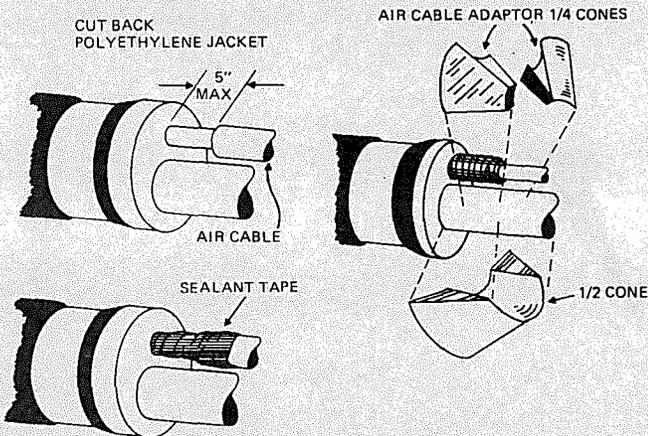
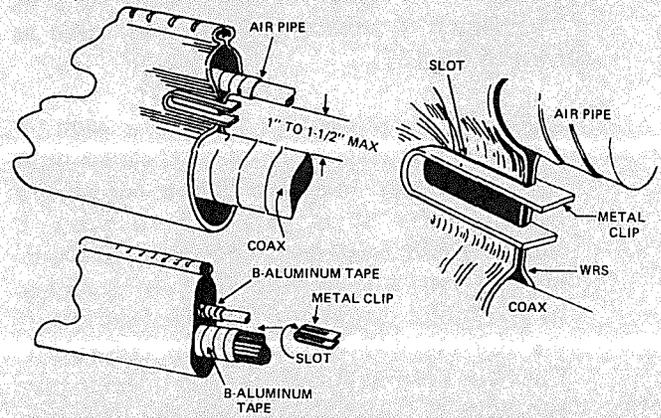

Fig. 31
Fig. 32
(b) Valve Point - CSE-M-20/22-01 Kit - In this kit there are five sections of sealant-coated split cones: Two ¼-split cones with a groove to accommodate the air pipe, a single half cone for the main cable (see Fig. 31) and two half cones for the straight end of the sleeve. Install as follows:
(1) Follow steps 1 through 6 in 9.17(a).
(2) Remove 5 inches of the polyethylene sheath from the air pipe and wrap with sealant strips or B sealing tape as shown in Fig. 31.
(3) Place split cones as shown in Fig. 31. Fill in groove over air pipe with sealant strips or B sealing tape.
(4) Place split cones on the straight end as described in 9.17(a).
(5) Follow 9.17(a), steps 9 through 14 to complete the job.
(6) Place metal clip on the WRS between the air pipe and the main cable as shown in Fig. 32.